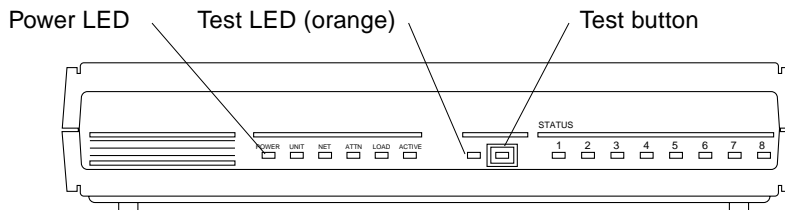

FIGURE 2-6 Terminal Concentrator Test Button and LEDs
4. Hold down the terminal concentrator Test button (FIGURE 2-6) until the power LED flashes (about three seconds), then release the Test button.